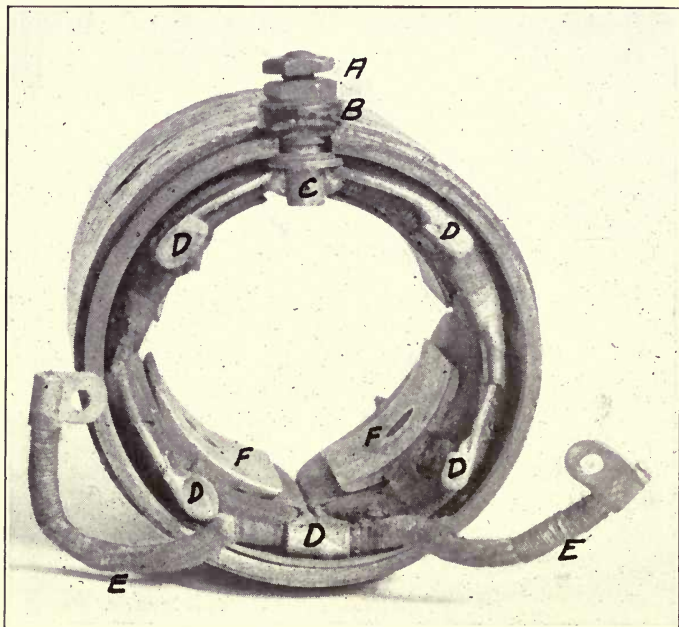
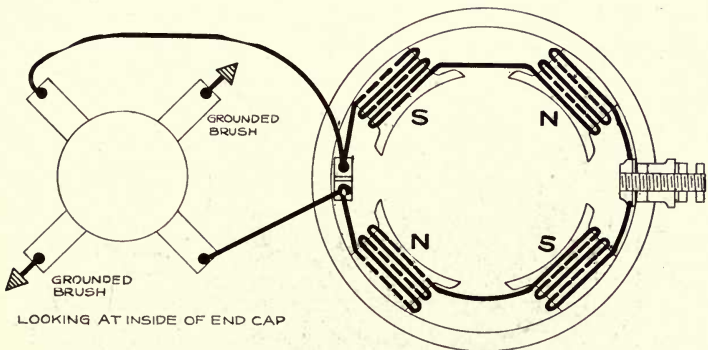

FIGURE 14.
FIGURE 15.
**FIELD WINDINGS.** Each of the four motor field poles carries one heavy coil, as shown in Figure 14. The con-
nections of these coils are shown in Figure 15. The joints between field coils (shown at D. Figure 14) are not covered with any insulating material, and care should be taken that the bare copper does not touch the motor frame, as this would practically short circuit the battery when the starting switch is closed.